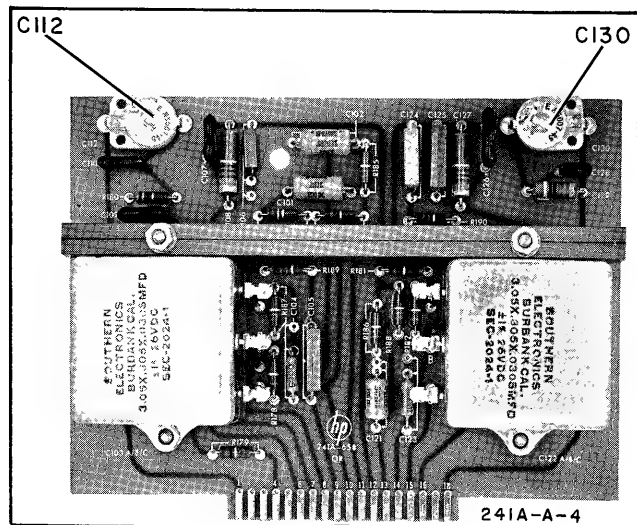

Figure 5-7. Range Capacitor Board Assembly
- Adjust trimmer capacitors C112 and C130 (see Figure 5-7) for a frequency indication of 100.2 kc with an error voltage indication of 115 millivolts.